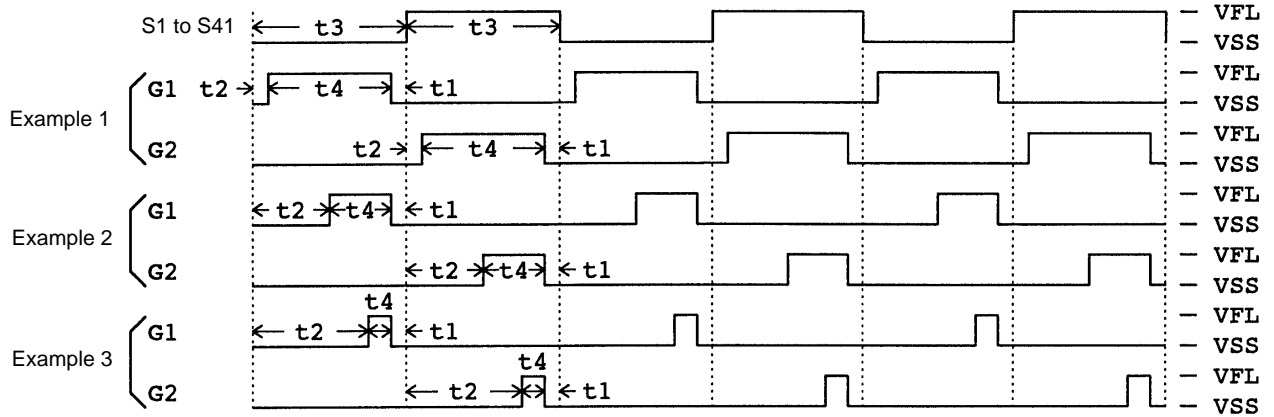

Figure 5
- Figure 5 shows the case where the display data is set up so that the segment outputs S1 to S41 output the  $V_{SS}$  level with the same timing as the G1 and G2 digit outputs, and output the  $V_{FL}$  level with the same timing as the G2 digit output. Here, the segments corresponding to G2 will be turned on. The relationship between  $t3$  and the oscillator frequency  $f_{OSC}$  in this case is  $t3 = 2048/f_{OSC}$ .